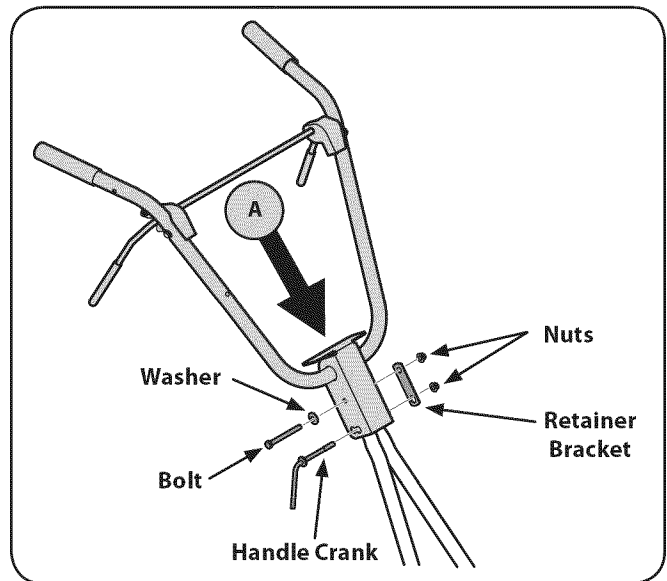

Figure 3-2
2. Position the upper handle onto the lower handle, Step A in Fig. 3-2. Align the holes on the lower handle with the holes on the upper handle.
3. Insert bolt, washer, and handle crank through the holes in the handle and secure with retainer bracket and nuts. See Fig.3-2.